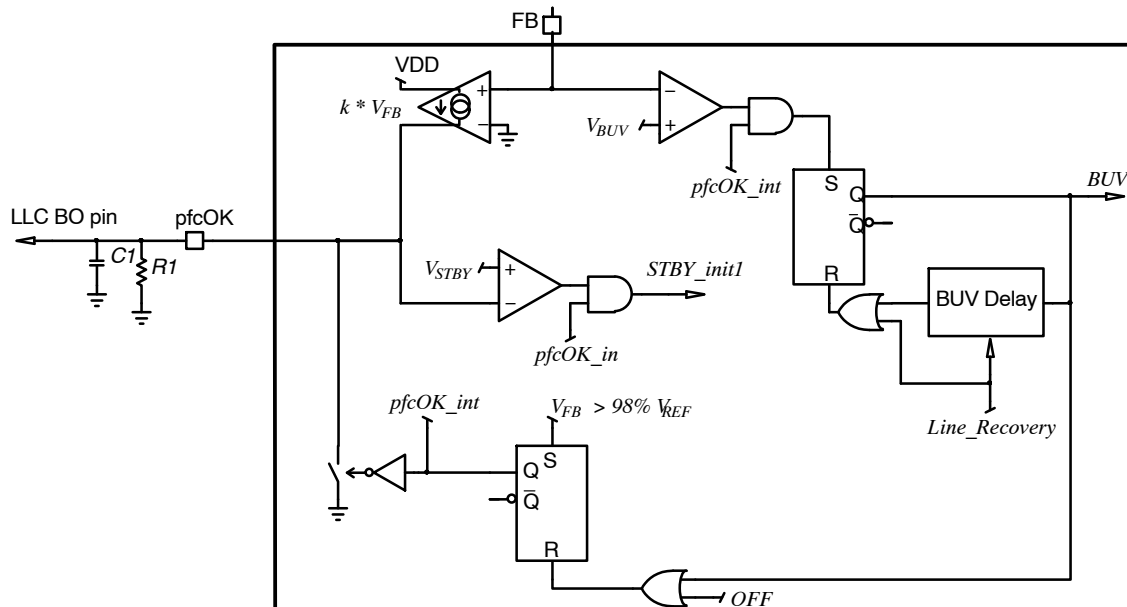

Figure 17. *pfcOK* Block
Practically, the *pfcOK* pin is grounded when the PFC stage enters operation and remains in low state until the output voltage has nearly reached its nominal level (practically when V_{FB} reaches $98\%V_{REF}$). At that moment, the *pfcOK* pin sources a current proportional to the feedback voltage ($k \cdot V_{FB}$). See Figure 17. Placing an external resistor between the *pfcOK* and GND pins, we obtain a voltage V_{pfcOK} which is proportional to the bulk voltage and can serve as a feedforward signal for the downstream converter. k typical value is $10 \mu\text{A/V}$ so that the *pfcOK* pin typically sources $25 \mu\text{A}$ when the FB voltage is 2.5 V (regulation level).
The high voltage (HV) pin is a multi-functional pin, which in addition to the startup current source, provides access to the brownout, line sag, line range detectors and X2 capacitor discharge. The brownout / line-sag detector detects too low line levels and the line range detector determines the presence of either 110 V or 220 V ac mains. Depending on the detected input voltage range, the NCP1618 internally adjusts device parameters to optimize the system performance. Line and neutral are diode “ORed” before connecting to the HV pin as shown in Figure 17. The diodes prevent the pin voltage from going below ground.
- Resets the BUV timer. It is because a long line-sag event is likely to cause a BUV detection. When a BUV fault is detected, no restart is possible until the BUV timer has elapsed. If a BUV fault is detected during a line-sag sequence, we want operation to be resumed as soon as the line recovers (see Figure 17).